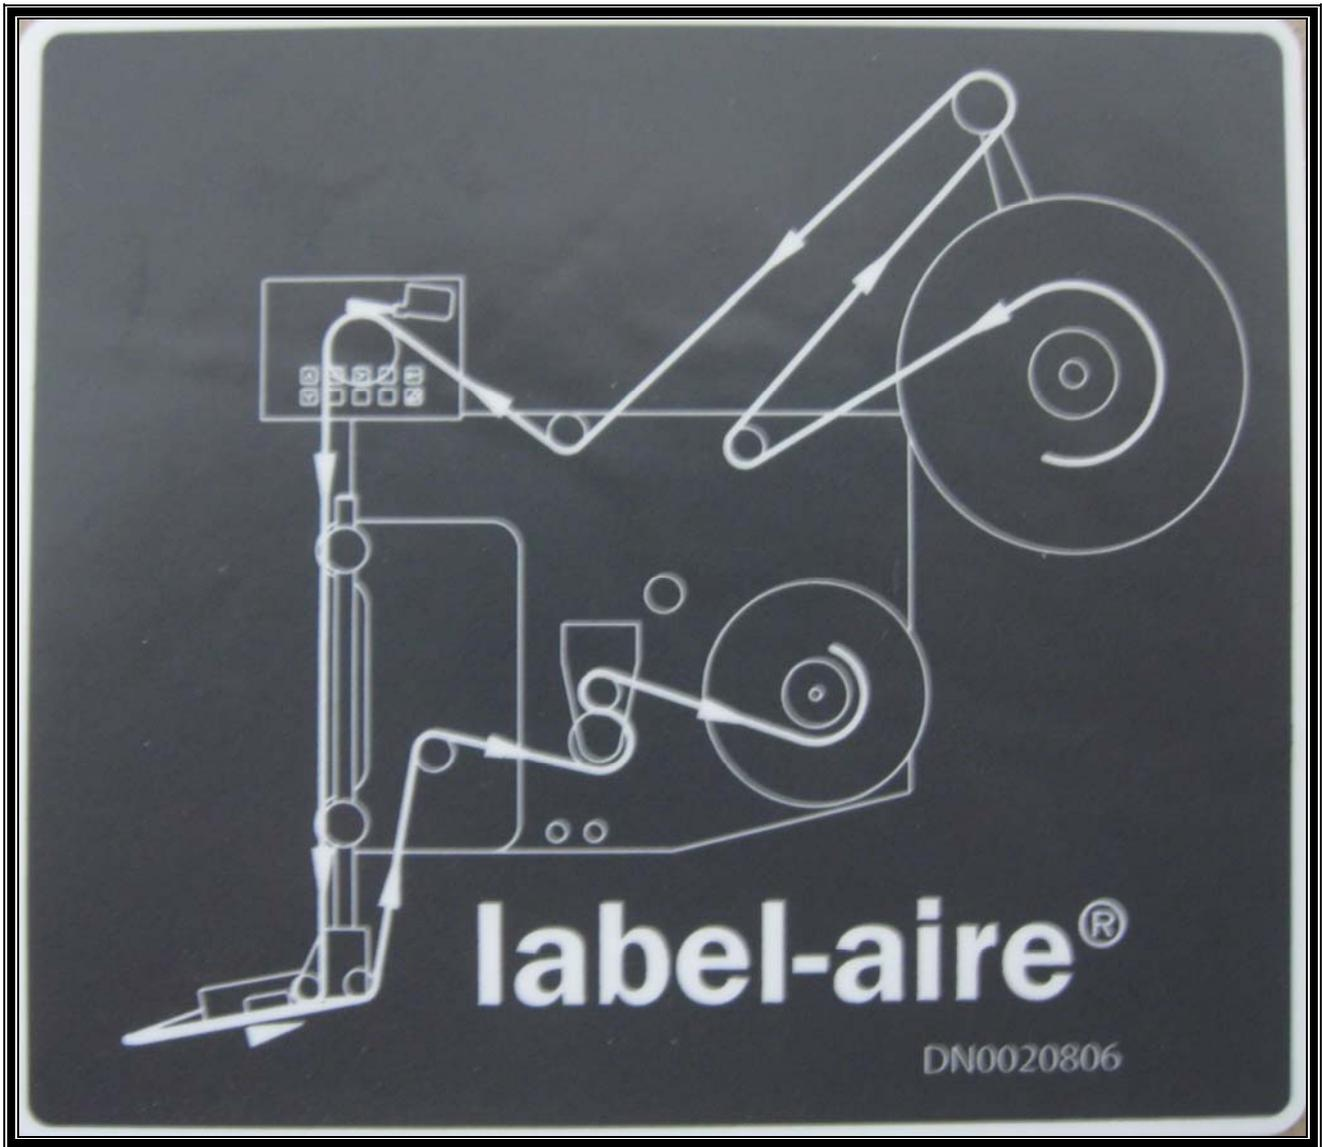
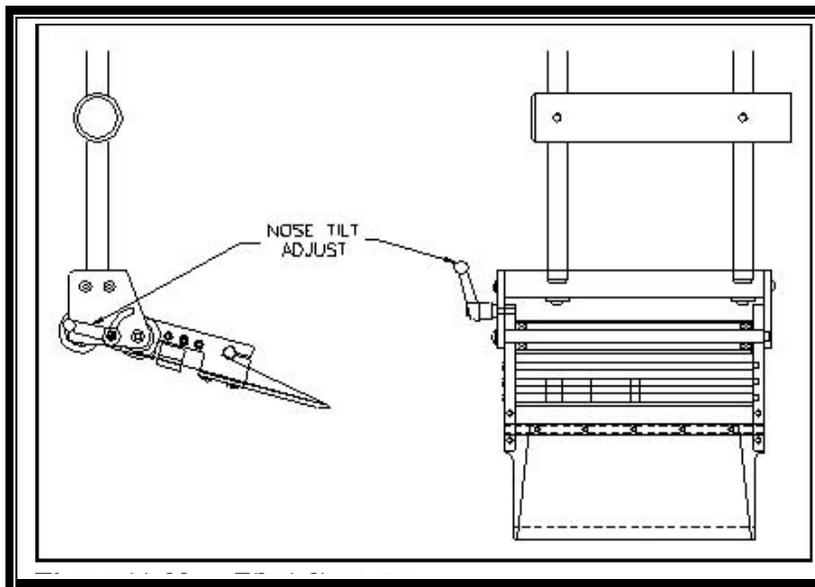

Figure 9 Threading Diagram (Left Hand)
Figure 10 -Nose Tilt Adjustment
1. Place the machine OFFLINE. Remove the outer unwind disk (see Figure 9 or Figure 10).
6. Thread the web through the machine as shown in Figure 9 or Figure 10. Make sure to thread the label liner through the label sensor.
12. Press and hold the (Custom) button, after two labels feed out, let go of the custom button and (3) labels will feed out and the labels should be calibrated.